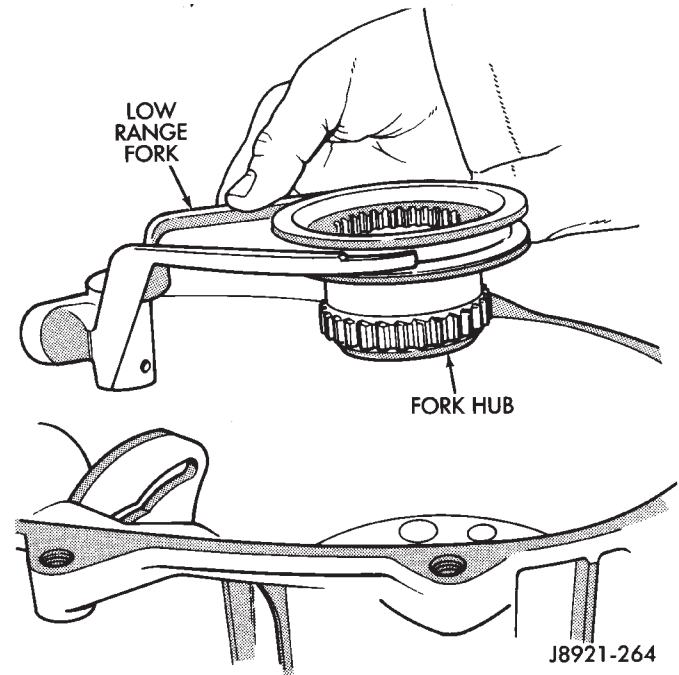

Fig. 25 Removing Low Range Fork And Hub
- (38) Remove low range fork and hub (Fig. 25).